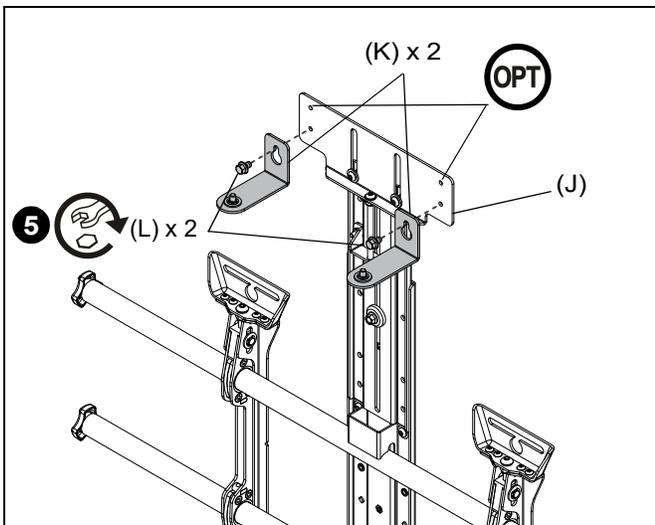

Figure 14
5. Install two interface brackets (K) to the lower adjustment assembly using two 1/4-20 x 3/8" hex head screws (L). (See Figure 14)